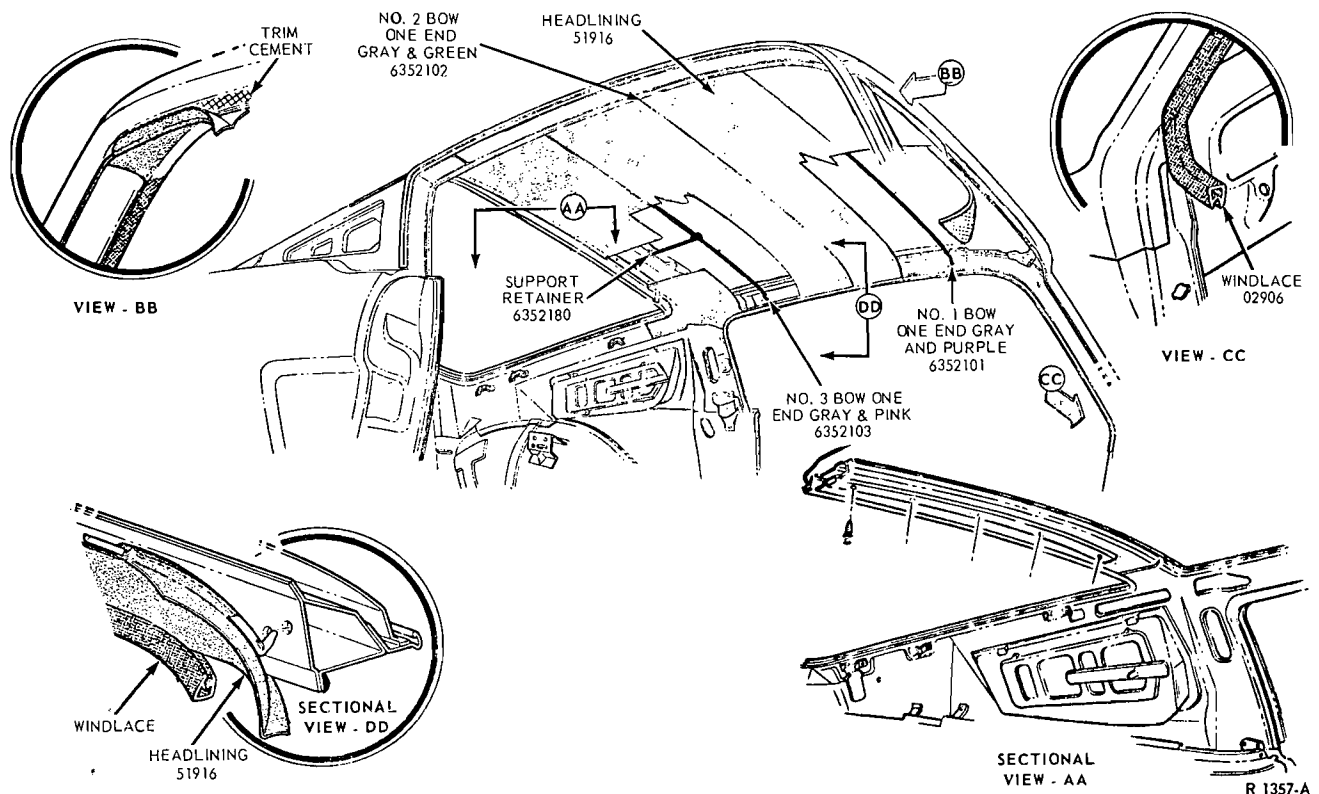

FIG. 14—Headlining Installation—Mustang Model 63
2. Remove the roof headlining side front retainer from each A pillar (Fig. 14—View BB).
6. Remove the windlace from the door openings (Fig. 14).
10. Place the old and new headlinings on a clean surface and transfer the bows to the new headlining. The bows are color coded on one end for identification (Fig. 14).
16. Apply trim cement (C2AZ-19C525-A) to the roof side rails at the door openings. Position the headlining to the side rails and trim off any excess material (Fig. 14).